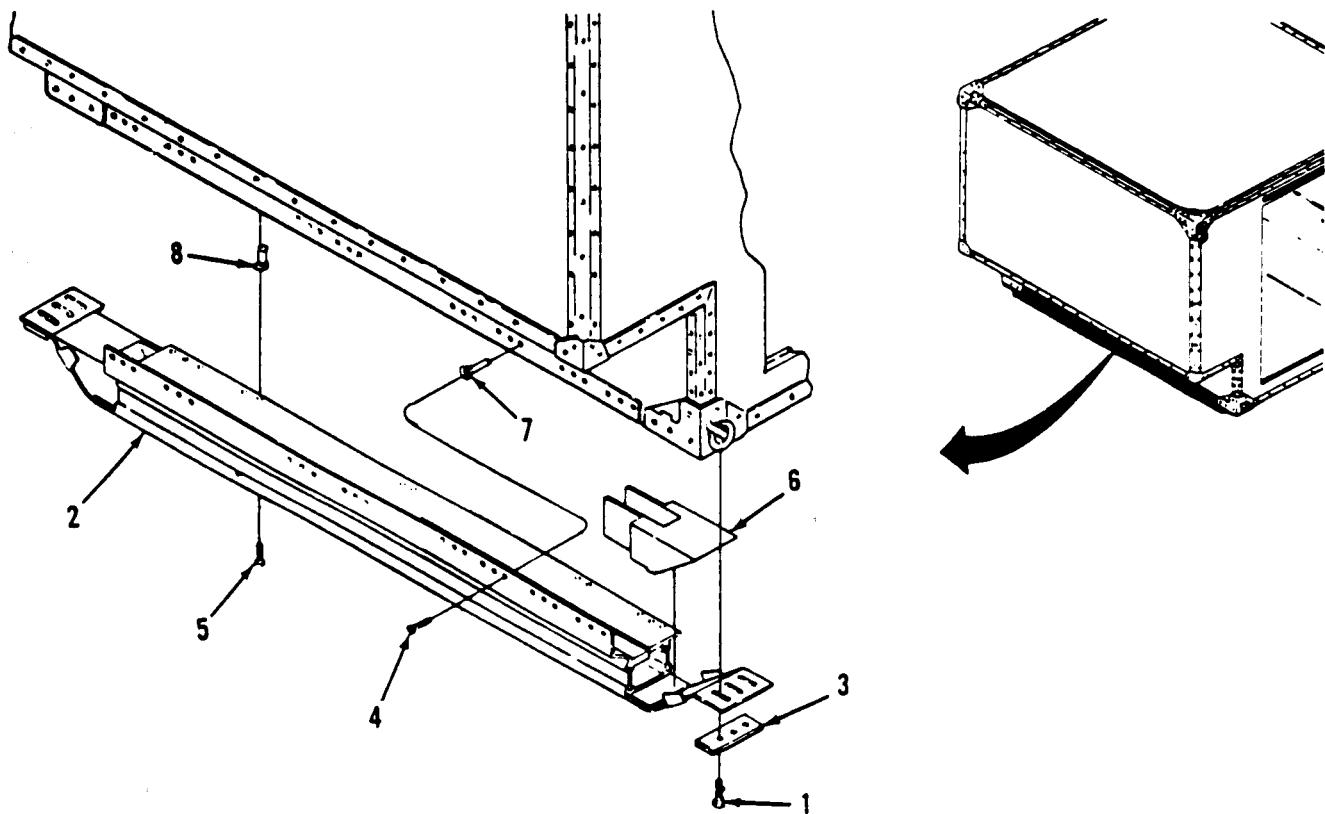
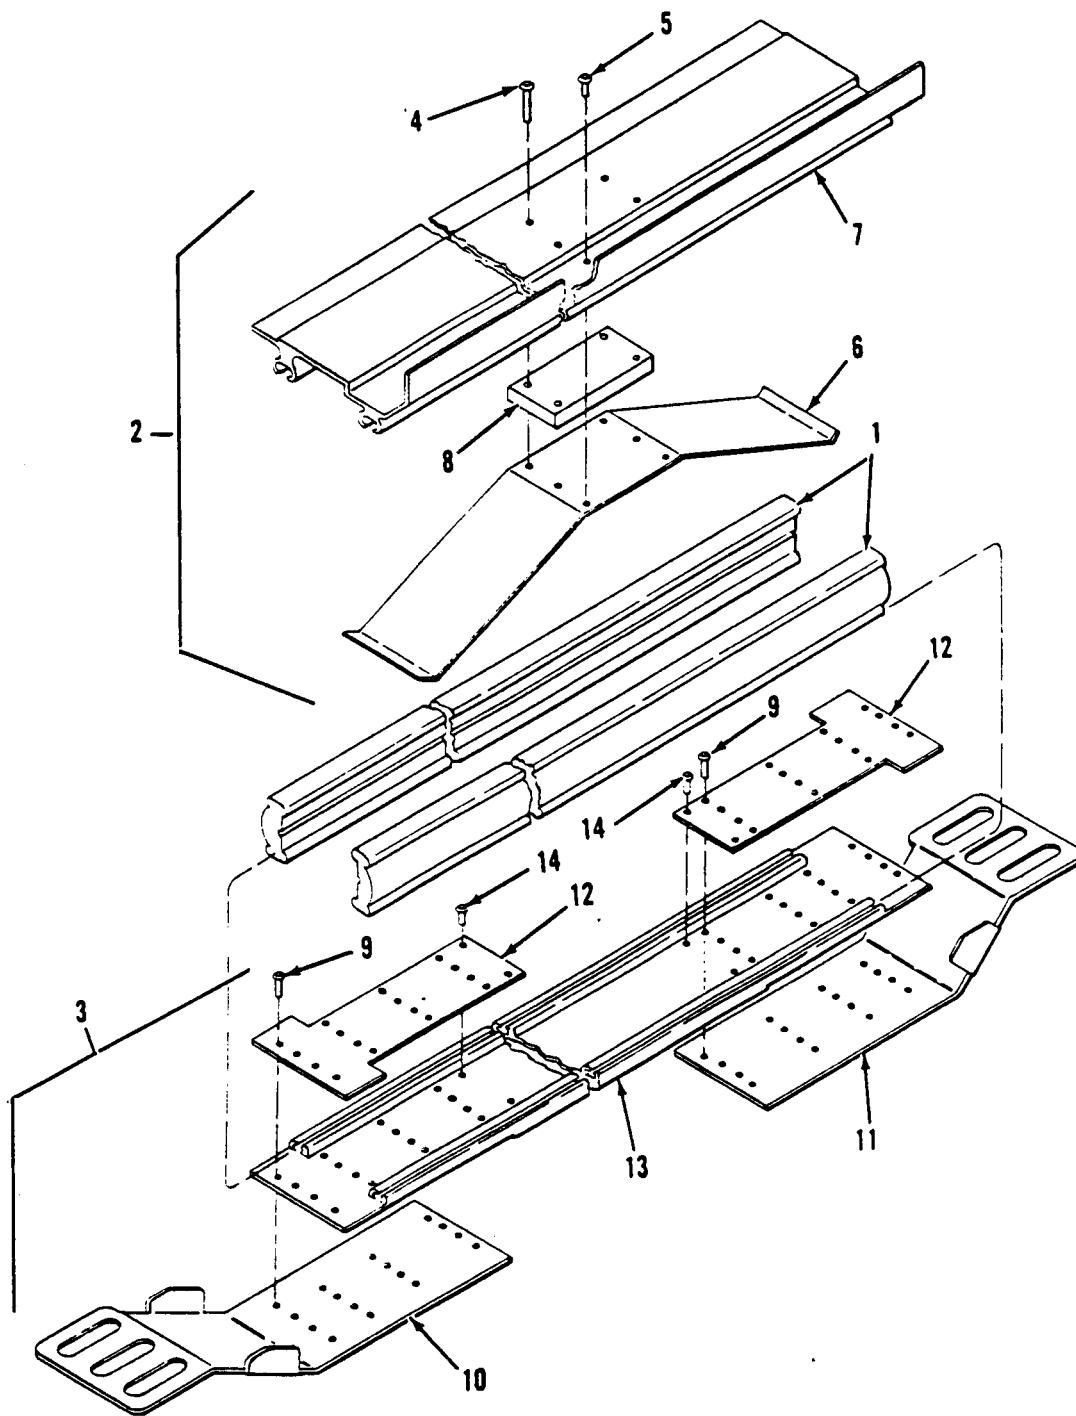

Figure 3-35. Skid Assembly Replacement.
Figure 3-36. Skid Assembly Repair.
- (1) Inspect for secure mounting and dents.
- (2) Inspect for damage to skirts (1, Figure 3-36).
- b. Remove. (Figure 3-35)
- (1) Remove and retain three hex-head bolts (1) attaching each end of skid assembly (2) to underside of towing brackets, and remove plates (3).
- (2) Remove and retain 24 phillips head screws (4) attaching skid (2) to side panel of shelter.
- (3) Remove and retain 1x2 phillips head screws (5) attaching skid to underside of shelter floor panel, and remove skid (2) and two rubber blocks (6).
- (4) Inspect condition of rivnuts (7 and 8) and replace if necessary (paragraph 3-9.b).
## c. Disassemble. (Figure 3-36)
- (1) Pull skirt (1) out of mounting grooves of upper plate assembly (2) and nose plate assembly (3).
- (2) Drill out four rivets (4) and two rivets (5) attaching spring (6) to skid plate (7), and remove spring (6) and spacer (8).
- (3) Drill out 16 rivets (9) attaching each noseplate (10 and 11) to plate (12) and shoe (13).
- (4) Drill out two rivets (14) attaching each plate (12) to shoe (13) and remove plates (12) from shoe (13).
e. Assemble. (Figure 3-36)
- (1) Position each plate (12) in place on shoe (13) and secure with two rivets (14). (Refer to paragraph 3-9.a for rivet installation instructions.)
- (2) Position each noseplate (10 and 11) in place over each plate (12) and secure to plate (12) and shoe (13) with 16 rivets (9).
- (3) Place spring (6) under skid plate (7) and secure with four rivets (4) and two rivets (5).
- (4) Push each skirt (1) in mounting grooves noseplate assembly (3). Align grooves of upper plate assembly (2) with top flange of skirts (1) and push in place.
d. Install. (Figure 3-35)